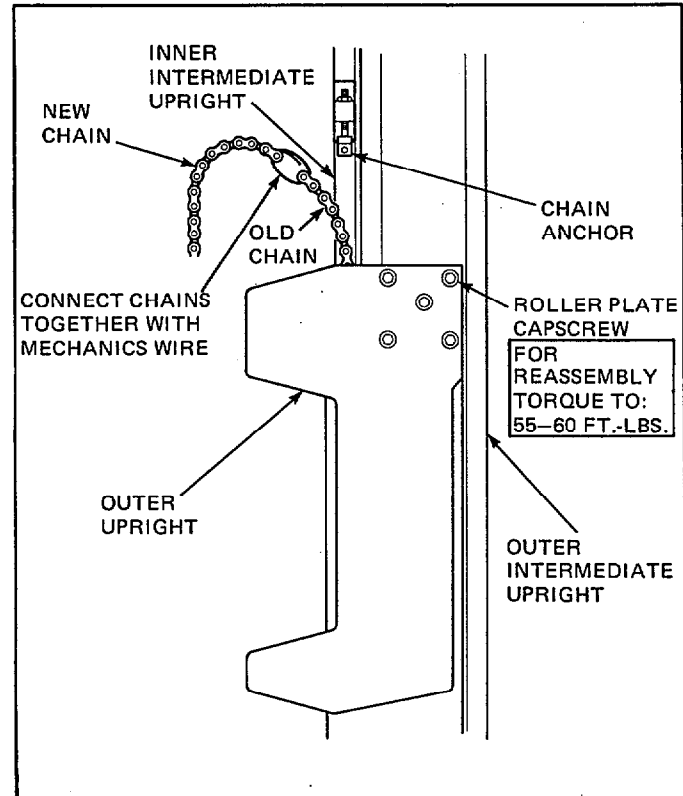

Figure 48. Chain Replacement
2. Remove the chain from the chain anchor and connect the end of the new chain to the end of the old chain with mechanics wire. See Figure 48.
3. Remove the 5 cap screws retaining the roller plate to the outer upright. See Figure 48.